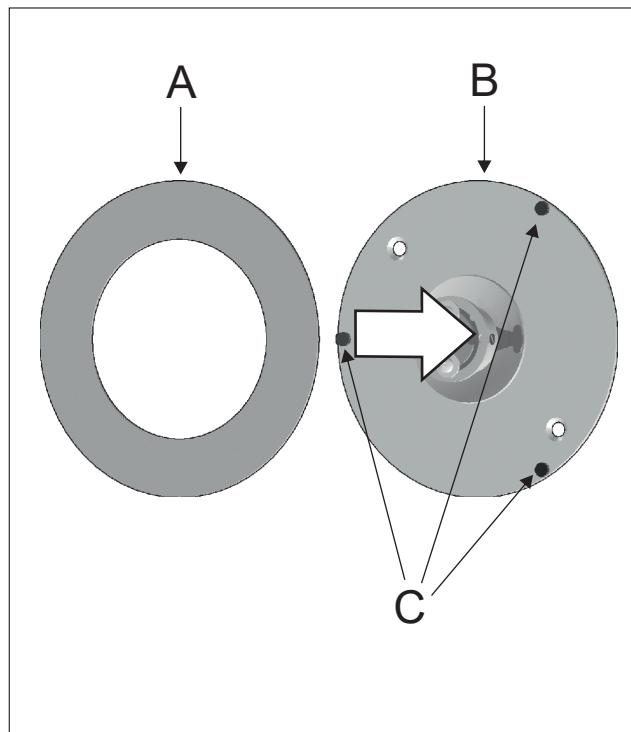

Figure 5
5 - Attach again the metal plate (A) and attach it again to the mounting bracket (B) using the magnets (C). Figure 5.